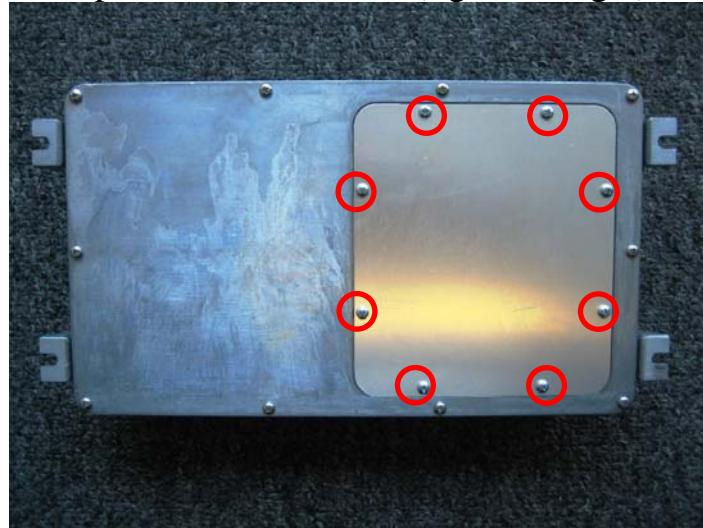

Fig.1
2. Open the battery cover plate as shown, refer (fig.1 and fig.2)